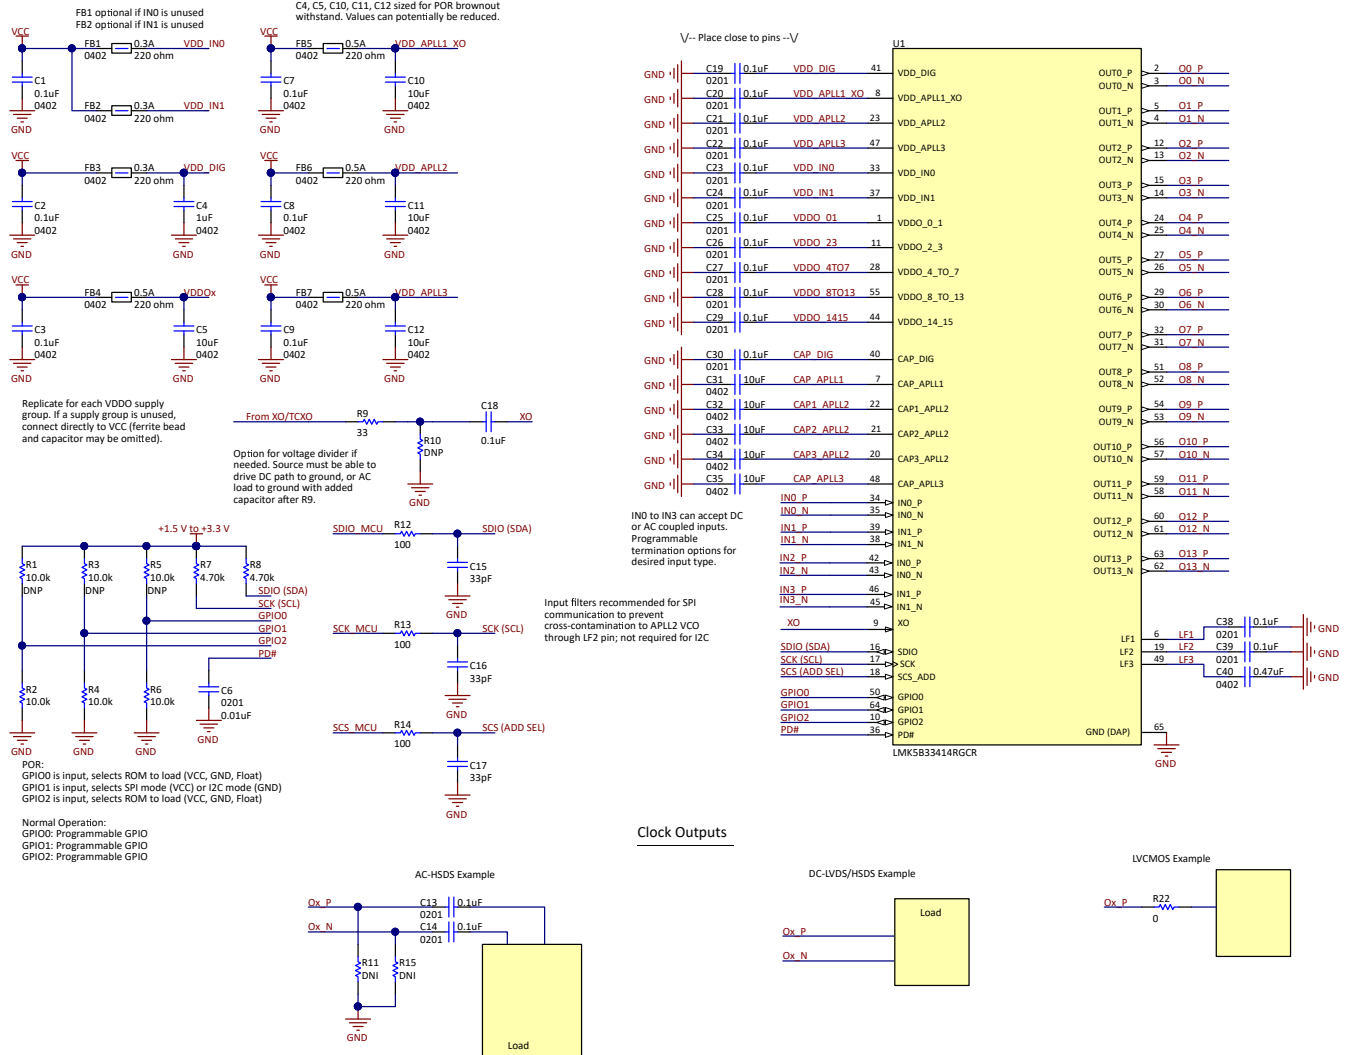

图 9-3. Reference Schematic Example
- Reference inputs: Follow the LVCMOS or differential clock input interface examples in 图 9-3 or 节 8.3.3.
- Clock output Interfacing: Follow the single-ended or differential clock output interface examples in 图 9-3 or Clock Output Interfacing and Termination.
- Power all the VDD pins with proper supply decoupling and bypassing connect as shown in 图 9-3.